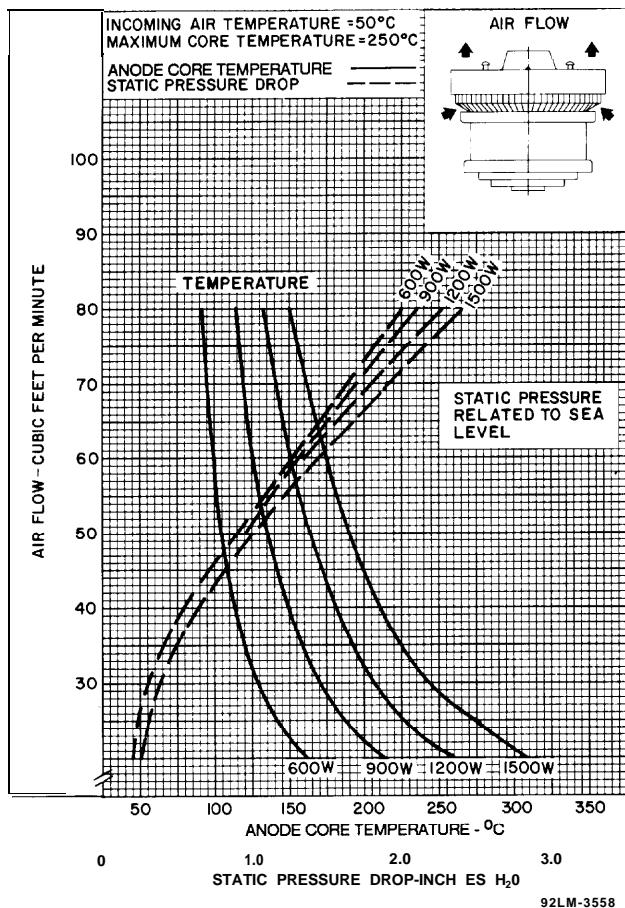

Figure 6 - Cooling Characteristics
Cooling air flow is required to limit anode-core and terminal-seal temperatures to values that will assure long, reliable tube life. Sufficient air flow must be directed past each of these terminals to keep temperatures well below the absolute-maximum limit. A safety factor of 250 to 50° C should be applied to compensate for all probable system and component variations throughout life. A blower of sufficient capacity must deliver cooling air to the anode radiator and to the terminal seals at all times that electrode voltage, even just heater voltage, is applied to the tube. For best tube life, cooling air flow should continue for at least three (3) minutes after all electrode voltages have been removed. See **Figure 6 - Cooling Characteristics**, For further information on forced-air cooling, refer to TP-118.